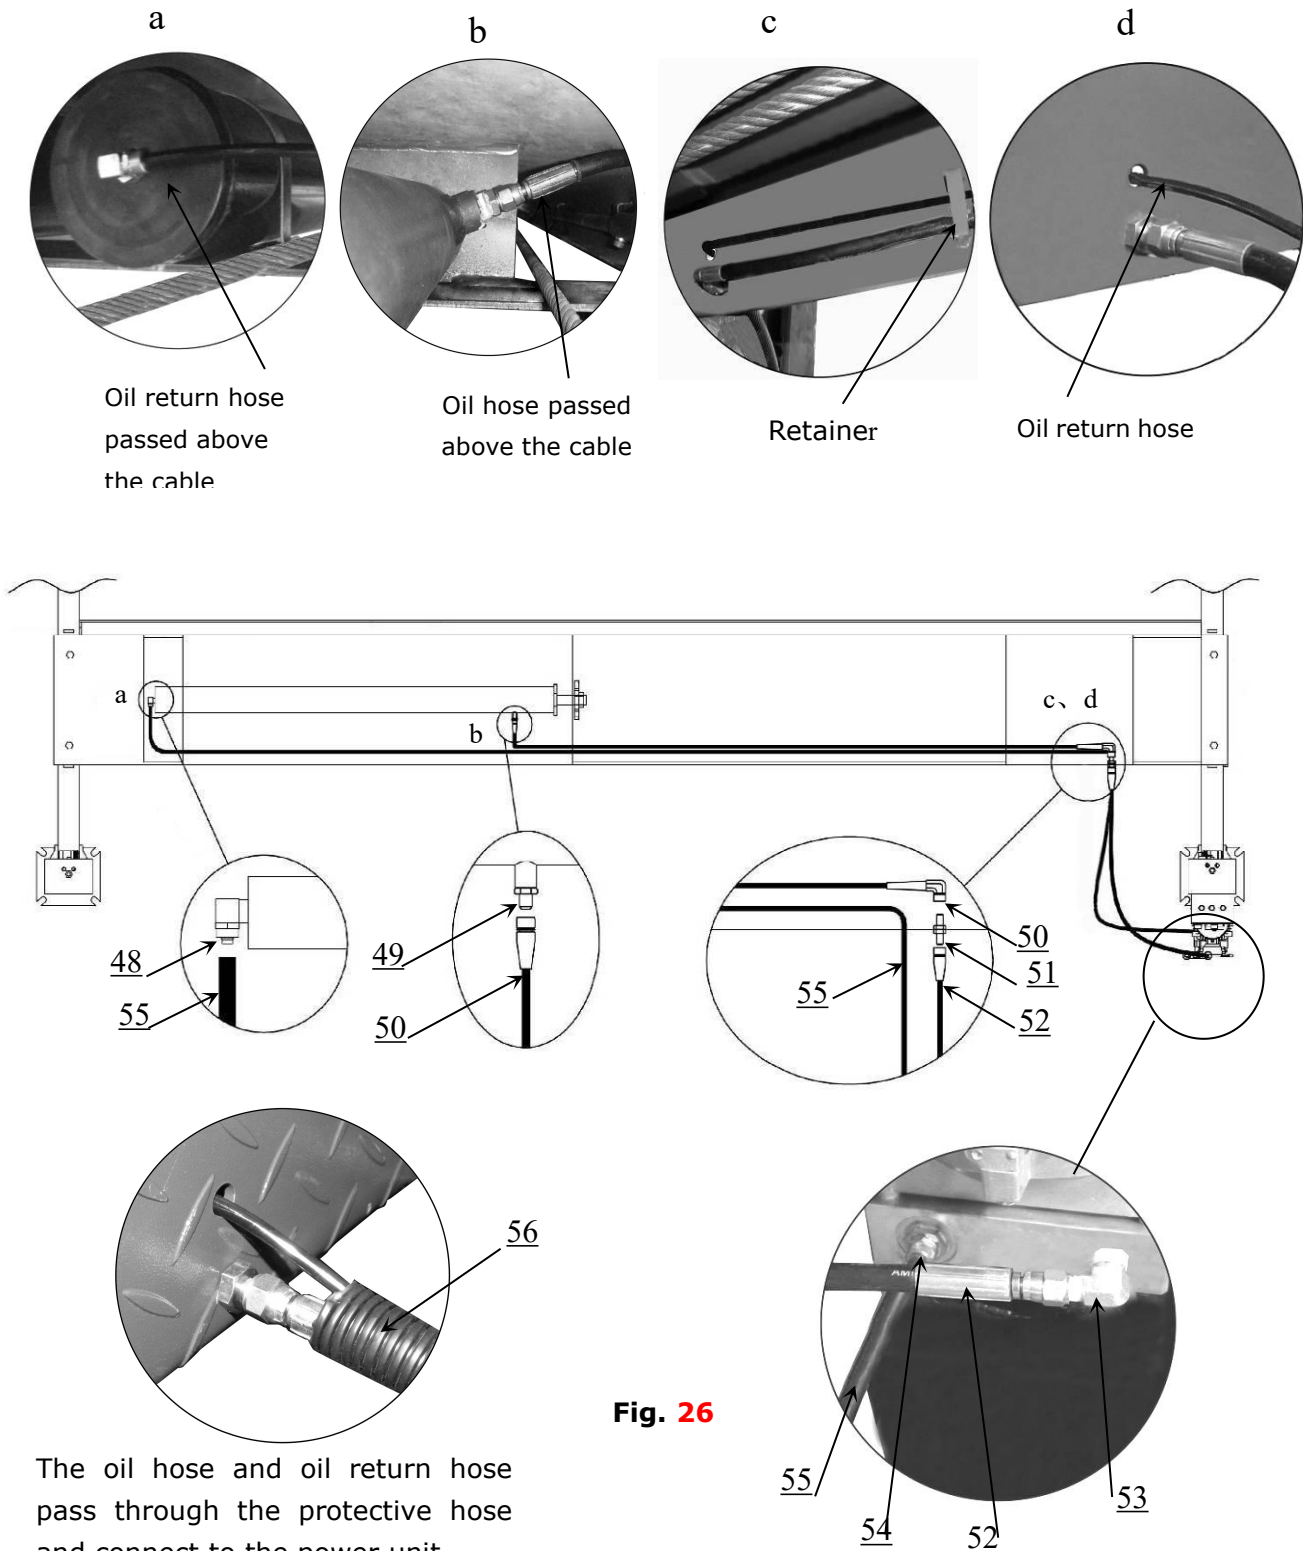

Fig. 26
1. For power unit attached to the column of cross beam **A** (See Fig. 26)